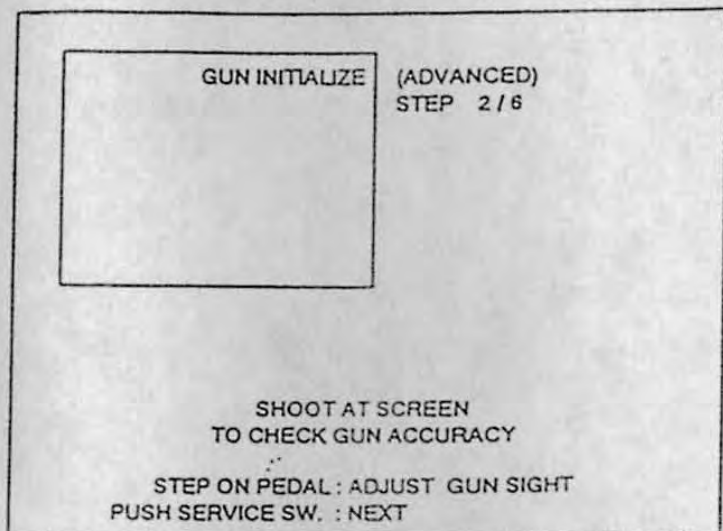

Fig. 6.20 Gun Initialization Screen 6
14) Perform initialization, and after checking the aim on the screen shown in Fig. 6.20, press the service switch to move to STEP 3/6.